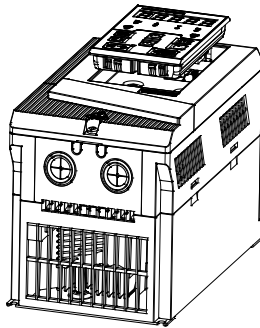

Figure 2-4 Keypad Installation
- Assemble keypad: Make RJ-45 terminal aligned with the modular plug at keypad bottom horizontally, and press keypad flatly until it clicks into the right place. See Figure 2-4.